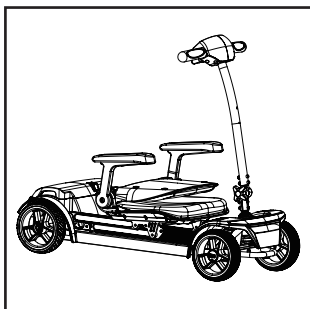

Figure 10
2. Fold the Seat: Smoothly fold the seat forward and place it securely on the footrest. Ensure it sits stably(see figure 10).